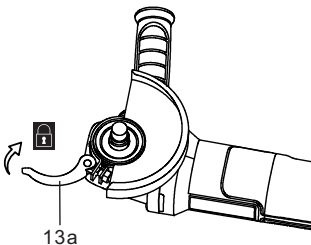

Fig. 7
3. Close the clamp lever (13a) (Figs. 7, 8).